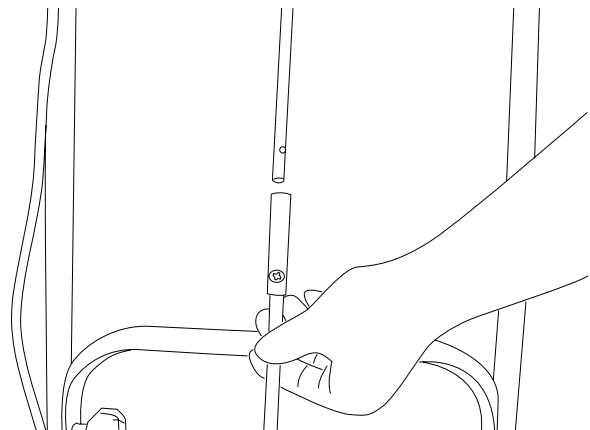

Figure 10
3. Slide the upper chute crank into the lower chute crank (Fig. 10).